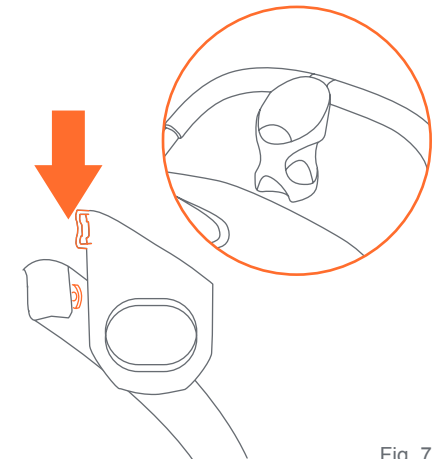

Fig. 7
- 7) • To attach cup holder: slide the clip on the cupholder over Cup Holder tabs on the Handle Bar. Push until firmly in place (Fig. 7).